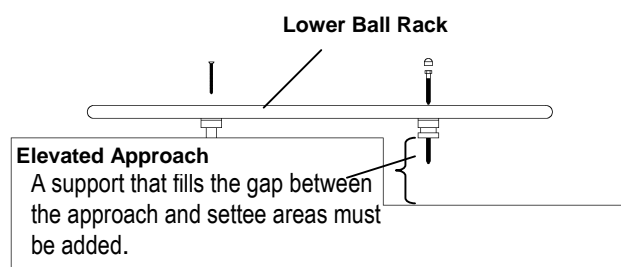

Figure 13, Overhanging Installation
1. Place the lower ball rack in the desired location. It should be level and aligned with the upper ball rack. Position the lower rack's cross bar at the end farthest from the ball return. The exact location isn't critical, but if the cross bar is positioned beyond the end of a raised approach, the area where it will be mounted must be built up so that the rack will be supported properly (see Figure 13).